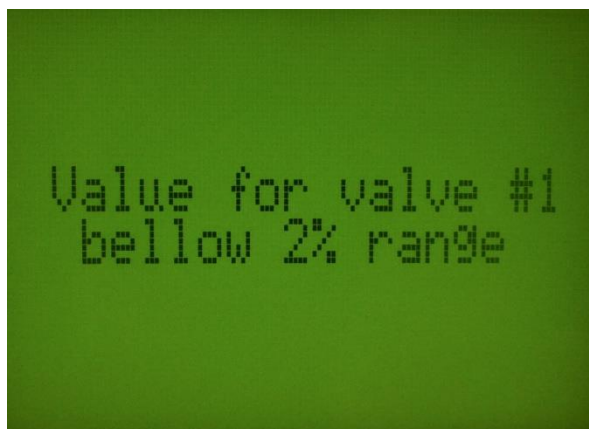
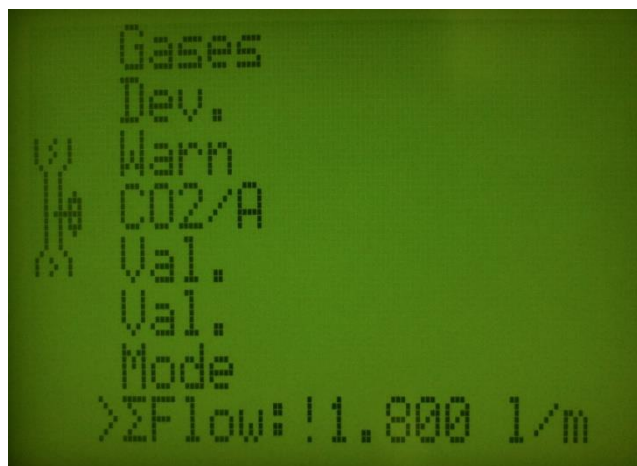

Fig. 12 Error Message
Fig. 18 Exclamation mark during setting the total output flow
- The relative gas content units are either parts per million (ppm) or percents (%). Sum of percent has to be 100 % (for example 2 % CO₂ and 98 % Air). You cannot set the ratio, which corresponds to the minimal flow rate to 2 % of maximum valve – an error message appears (see picture below Fig. 12).
The total flow of the gas mixture is determined by the instrument so that the relative gas content is adjusted with a maximum accuracy. The user can optimize gas mixture flow using the Setting Screen → Press “S” key (below the digital display) to switch from the **Display & Control Screen** to the **Setting Screen**. Use “UP/DOWN” keys for moving in menu and press “S” key on option **ΣFlow**. Use “UP/DOWN” keys to set the required value (for example 2,792 l/min – see Fig. 18) a press “S” key to confirm. This function is available only for Relative Gas Flow Units (not for Absolute Gas Flow Units)
This option is active only when the relative mode for gas mixture flow is used. It is used to modify the **total output flow** of the gas mixture. The user can optimize gas mixture flow using the **Setting Screen** → Press “S” key (below the digital display) to switch from the **Display & Control Screen** to the **Setting Screen**. Use “UP/DOWN” keys for moving in menu and press “S” key on option **ΣFlow**. Use “UP/DOWN” keys to set the required flow value, and press “S” key to confirm. This function is available only for relative mode (not for absolute mode!). You cannot set the total output flow, which for some valve means < 2 % or > 100 % flow – error message appears (Fig. 12). During setting before value the exclamation mark appears (Fig. 18).